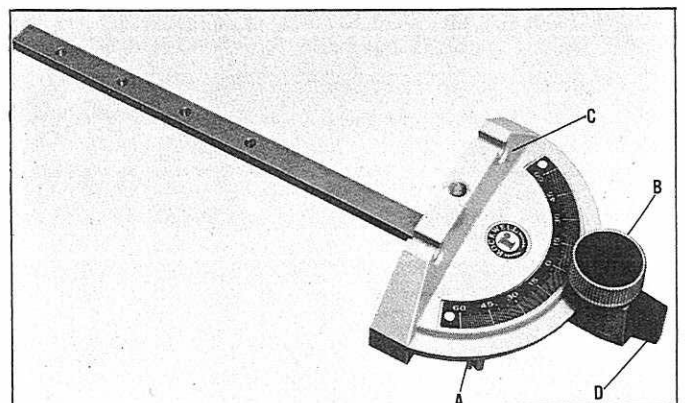

Fig. 31.
The Miter Gage is accurately constructed and equipped with individually adjustable index stops at  $90^{\circ}$  and  $45^{\circ}$  right and left. Adjustment to the index stop can be made by tightening or loosening the three adjusting screws. One of the adjusting screws (A) can be seen in Fig. 31.
To operate the miter gage, simply loosen the lock knob (B) Fig. 31, and to operate the body of the miter gage (C) to the desired angle. The miter gage body will stop at  $0^{\circ}$  and  $45^{\circ}$  both right and left. To rotate the miter gage body past these points simply pull out the stop (D) Fig. 31.